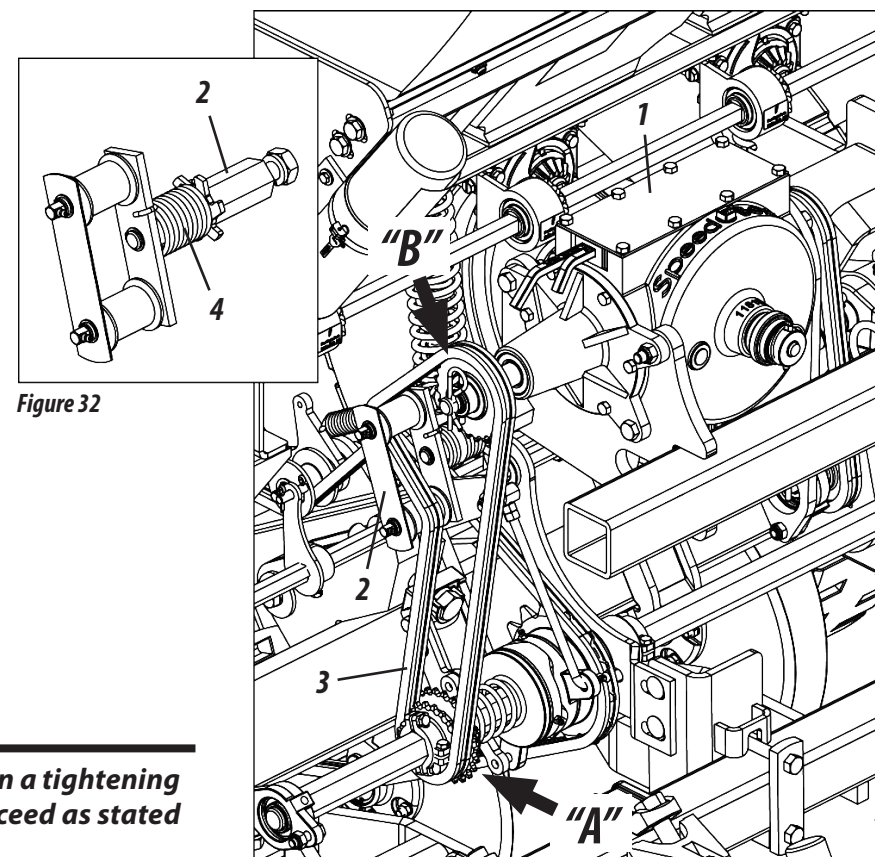

Figure 32
Seed adjustments are done using the Speed Box (1). Invert the chain from drive "A" gear to driven "B" gear **as shown in figure 32** in order to obtain more adjustments. Proceed as follows to invert the chain:
- 1- First turn the chain stretcher (2), relieving the tightness from the chain (3).
- 2- After invert the chain (3) as needed for the working conditions.
- 3- Following that, release the chain stretcher (2) let it go back, and then the chain is tightened again (3).
FERTILIZER CONDUCTOR - FERTISYSTEM (FIGURES 32/33)